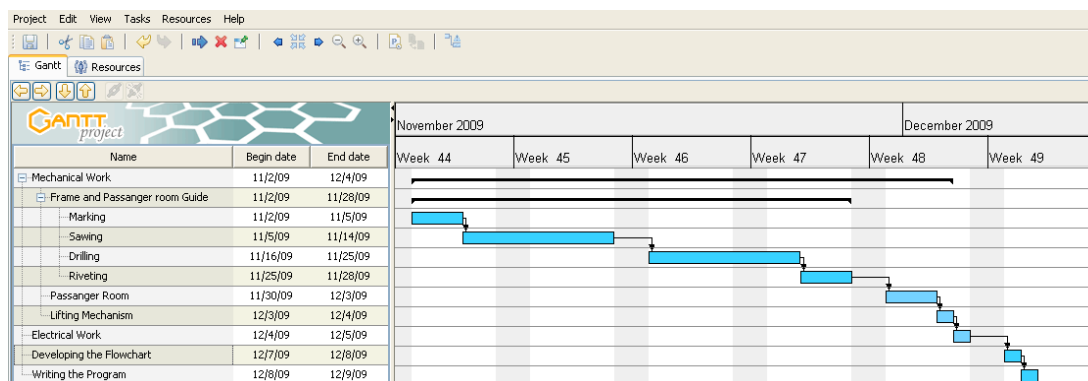

Figure 4.22: View of all tasks in weeks.
21. In the toolbar, click the Zoom out button to view the tasks in weeks as shown in figure 4.22.